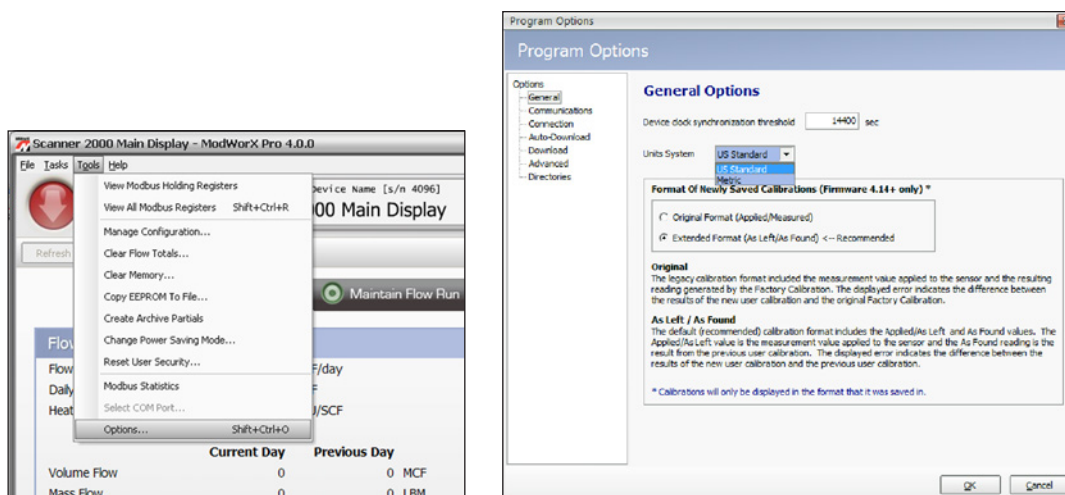

Figure A.17
1. Click **Tools>Options** in the task bar (Figure A.17, page A-17).